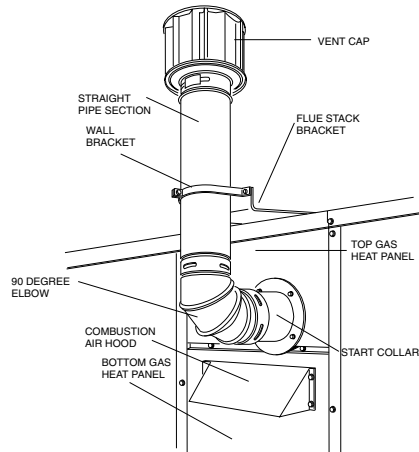

FIGURE 5 : FLUE EXHAUST KIT INSTALLED
7. Install the J-lock female end of the 90 degree elbow, (Item 5), over the start collar, with the outlet facing up. See Figure 5.